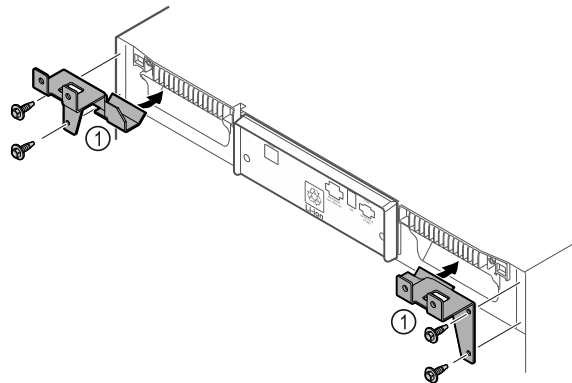

Fig. 12
- ▶ Fit the retaining parts Fig. 12 (1) to the device with self-tapping screws.